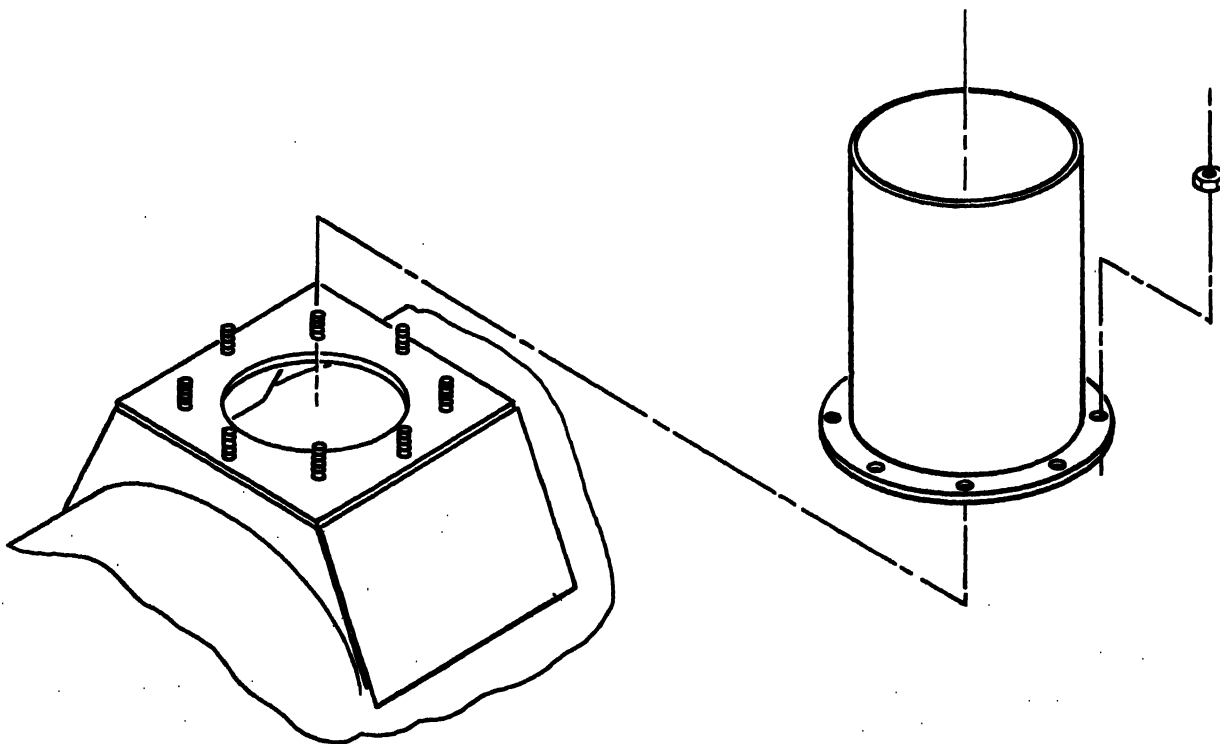

FIGURE 41. REMOVAL OF STACK
a. Removal. Refer to Fig. 41 and remove the burner exhaust stack.
c. Installation. Refer to Fig. 41 and install the burner exhaust stack.